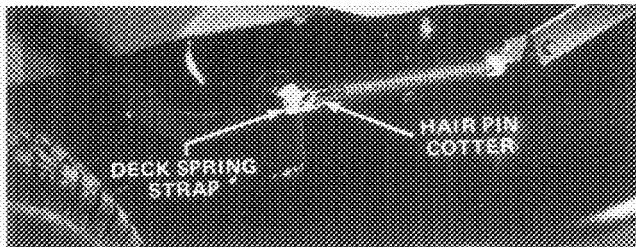

Figure 22
2. Set cutting unit down in lowest height-of-cut position, remove the hair pin cotter and washers securing the deck spring straps on both sides (Fig. 22) and pull straps off clevis pins.